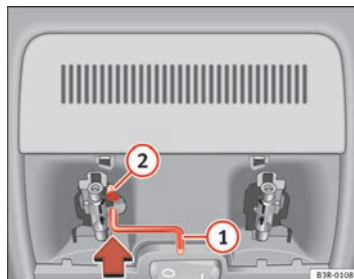

Fig. 83 Details of headliner: Crank handle for manual operations
- Insert the crank handle ① all the way into the hexagonal socket ② ⇒ page 113, fig. 83.